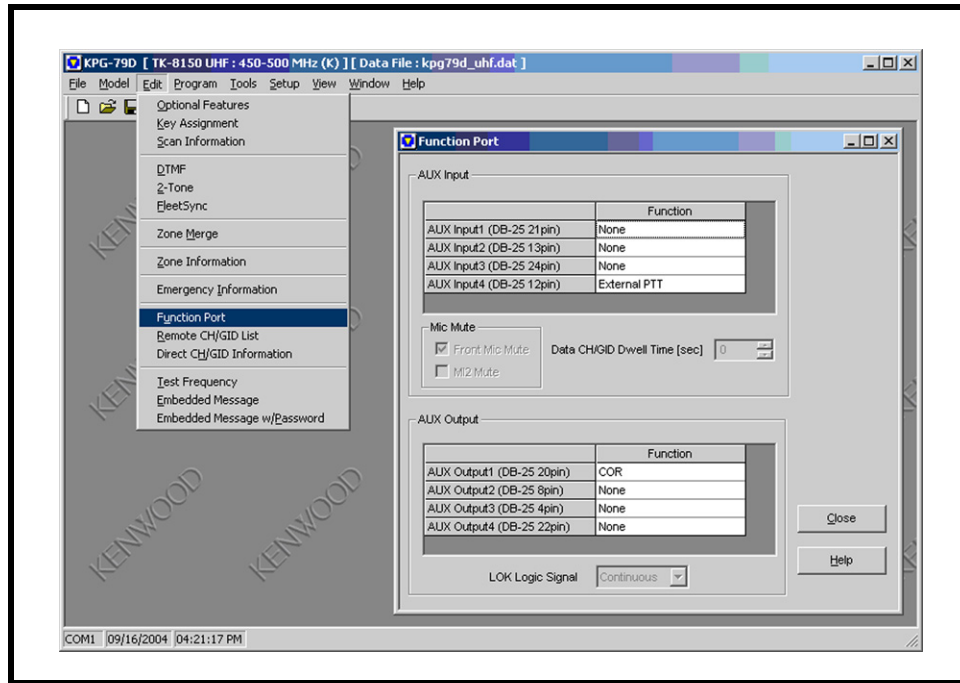

FIGURE 9. TK-x150/180 AUX Input
1. Program **Function Port, Aux Input** for External PTT in AUX Input 4 location and COR in AUX Output1. See Figure 9.